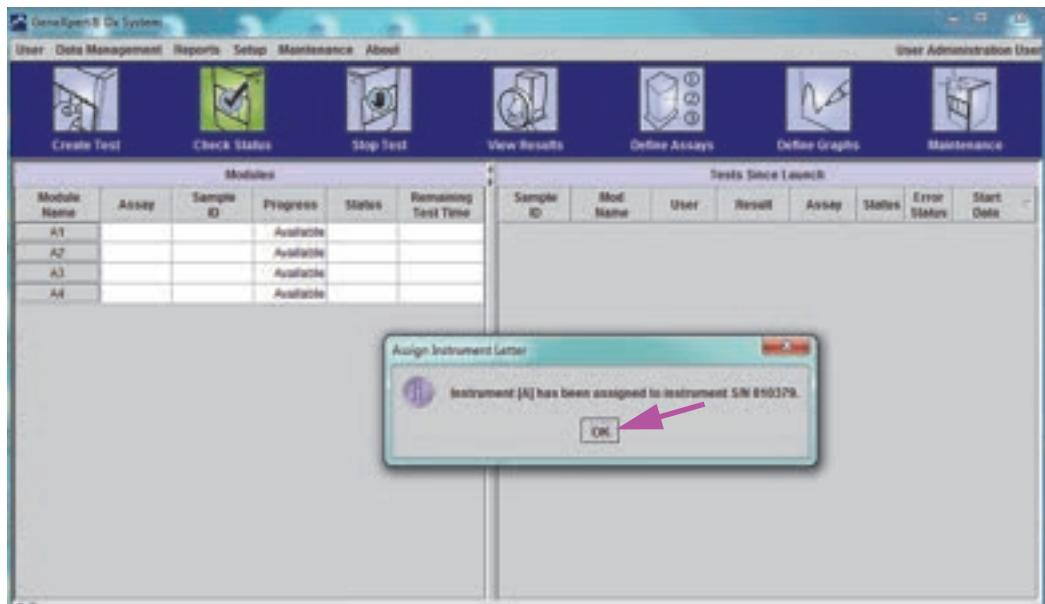

Figure 2-60. GeneXpert Dx System Window with Updated Instrument Letter Assignments
- Click **OK** to close the Assign Instrument Letter dialog box (see Figure 2-60). The Module Name is updated with the new Instrument Letters.